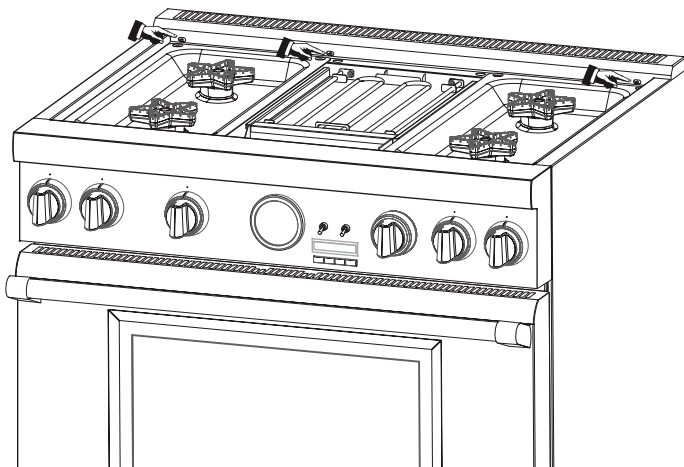

Figure 27: Flush Island Trim Front Face Screw Removal
1. Depending on model, remove the (3) or (5) T-20 Torx stainless screws in the front face of the included Flush Island Trim (Figure 27).